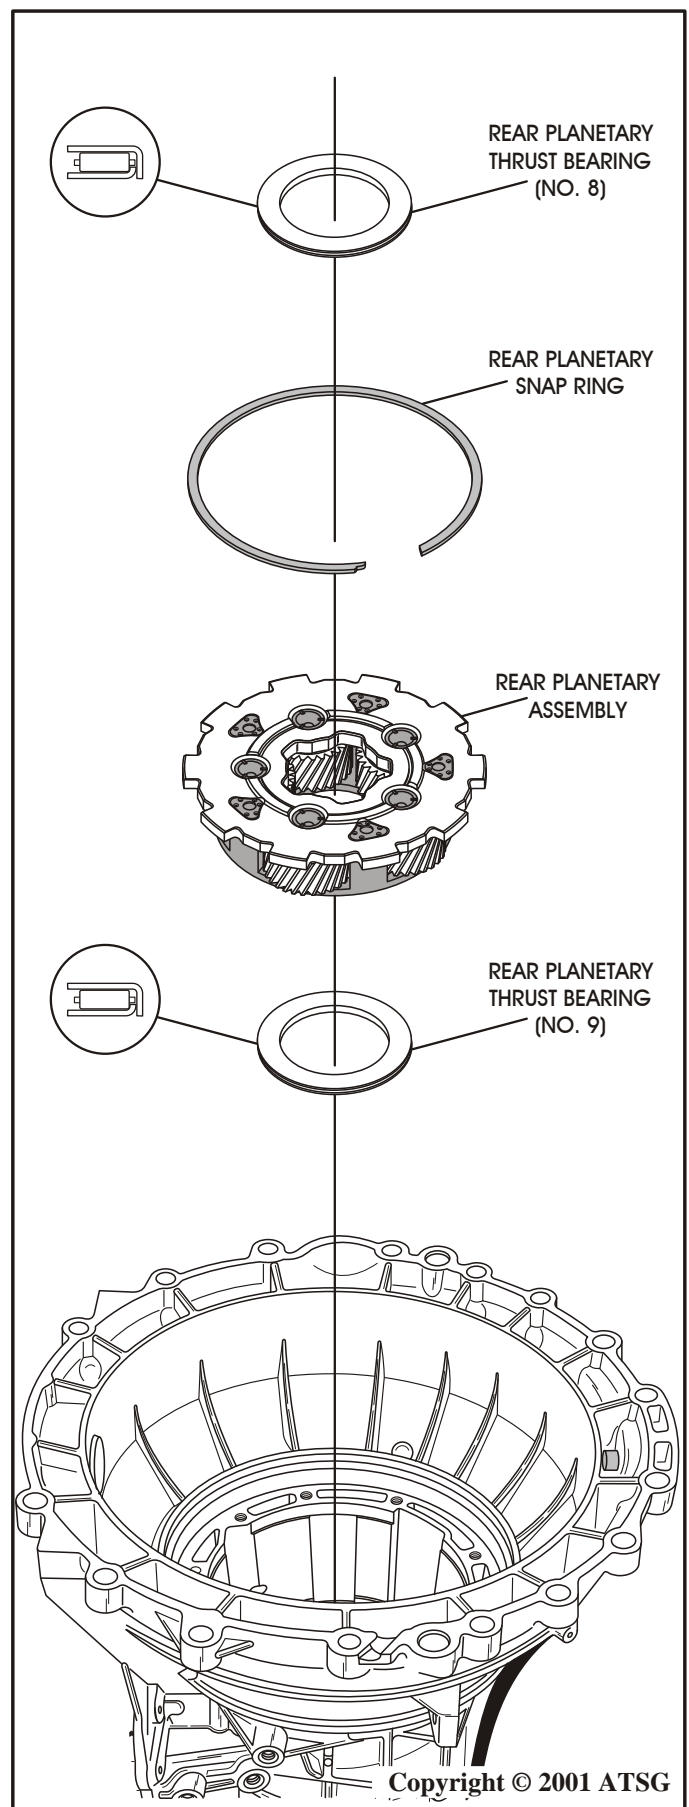

Figure 146
14. Install the rear planetary thrust bearing (No 9) into rear ring gear in the direction shown in Figure 146, and retain with a small amount of Trans-Jel®.
15. Install the rear planetary carrier assembly, as shown in Figure 146, by rotating into position.
16. Install the rear planetary snap ring into groove in reverse drum and ensure it is fully seated. (See Figure 146). **Note:** *Reverse drum will must be lifted up to install snap ring.*
17. Install the rear planetary thrust bearing (No 8) onto rear planetary in the direction shown in Figure 146, and retain with a small amount of Trans-Jel®.